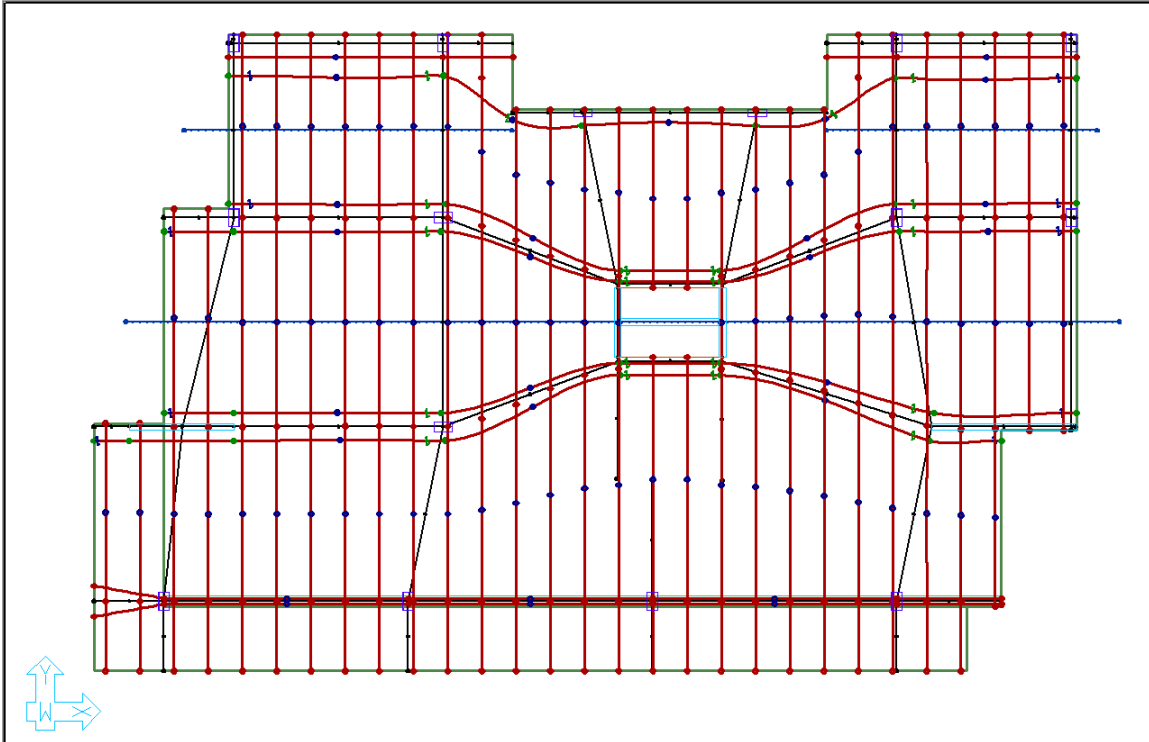

FIGURE 10-2
- Your screen should now look like the screen shown in **FIGURE 10-2**.